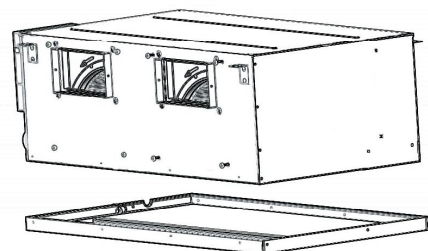

Fig.9-11
- 6) Two persons lift the base of air conditioner, horizontally push it and make it covered the air conditioner. (Fig.9-11)